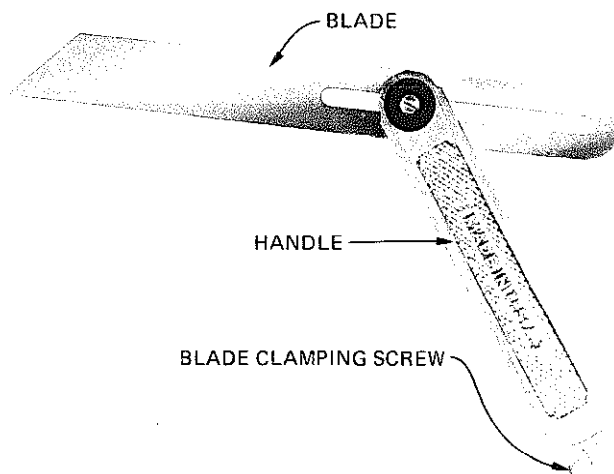
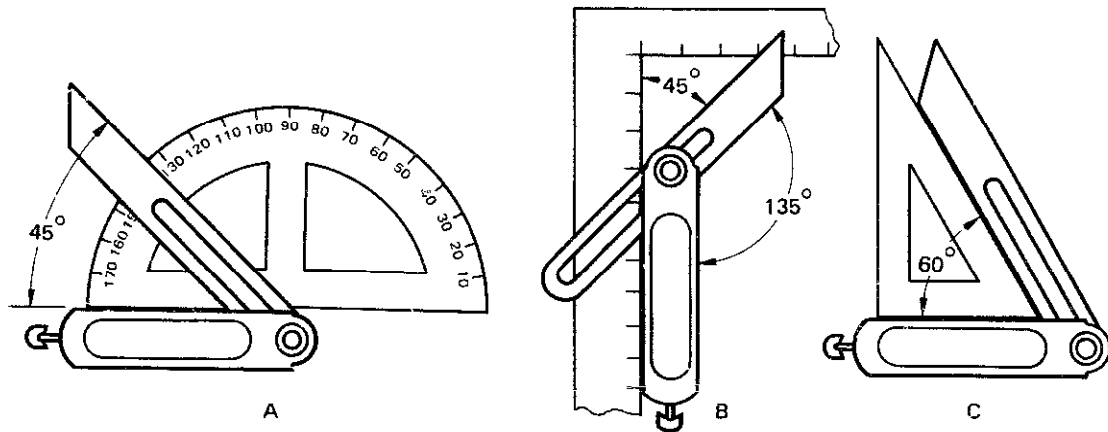

Fig. 4-32 Sliding T bevel
Fig. 4-33 Methods of setting the sliding T bevel to angles
The sliding T bevel, figure 4-32, is like a try square with an adjustable blade. A slot in the blade allows the blade to slide or pivot to any desired angle. A thumbscrew at the end of the handle locks the blade in position. Angles can be taken from a protractor (A in figure 4-33), steel square (B), or a draftsman's triangle (C).
The parts of the sliding T bevel are shown in figure 4-32. Note that one portion of the blade is slotted. This permits the blade to slide so the angles of inside corners can be measured. The blade can retract into the slot in the handle when the tool is not being used.
2. To set the blade at different angles, use the protractor as in A, figure 4-33. This shows the blade being set for 45 degrees.